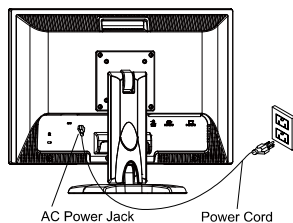

Figure1-5
1. Connect the power cord to the LCD Monitor.(See Fig. 1-5)